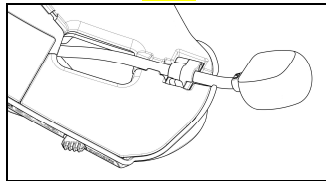

Fig. 17
- Close the clip. Make sure that the microphone side with the letter "n" is facing the inside of the helmet (Fig. 17).